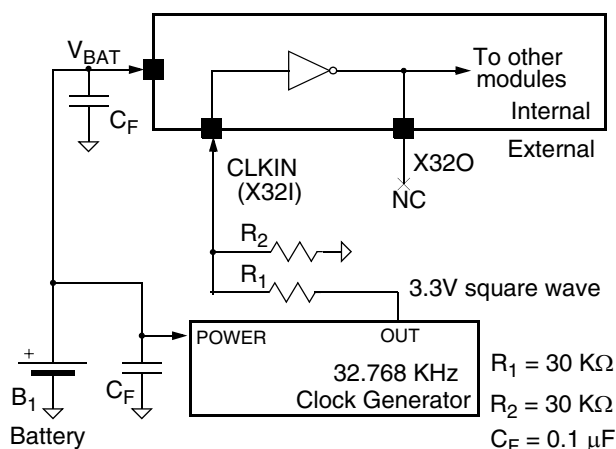

Figure 5-6. External Oscillator Connections
32.768 KHz can be applied from an external clock source, as shown in Figure 5-6.